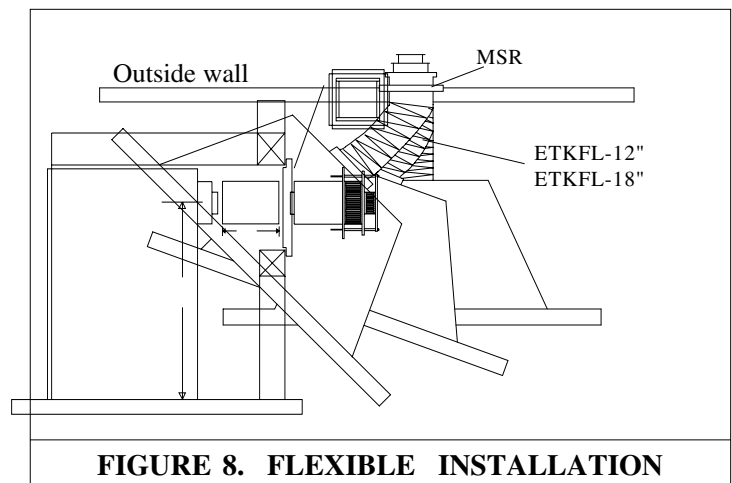

FIGURE 8. FLEXIBLE INSTALLATION
- 4). Corner installation of 45° or less: Use a Flexible section (available in ETKFL 12", or 18") a stucco frame and termination. Flex may be turned to obtain desired degree of angle required but must not exceed 45°. (See figure 8).